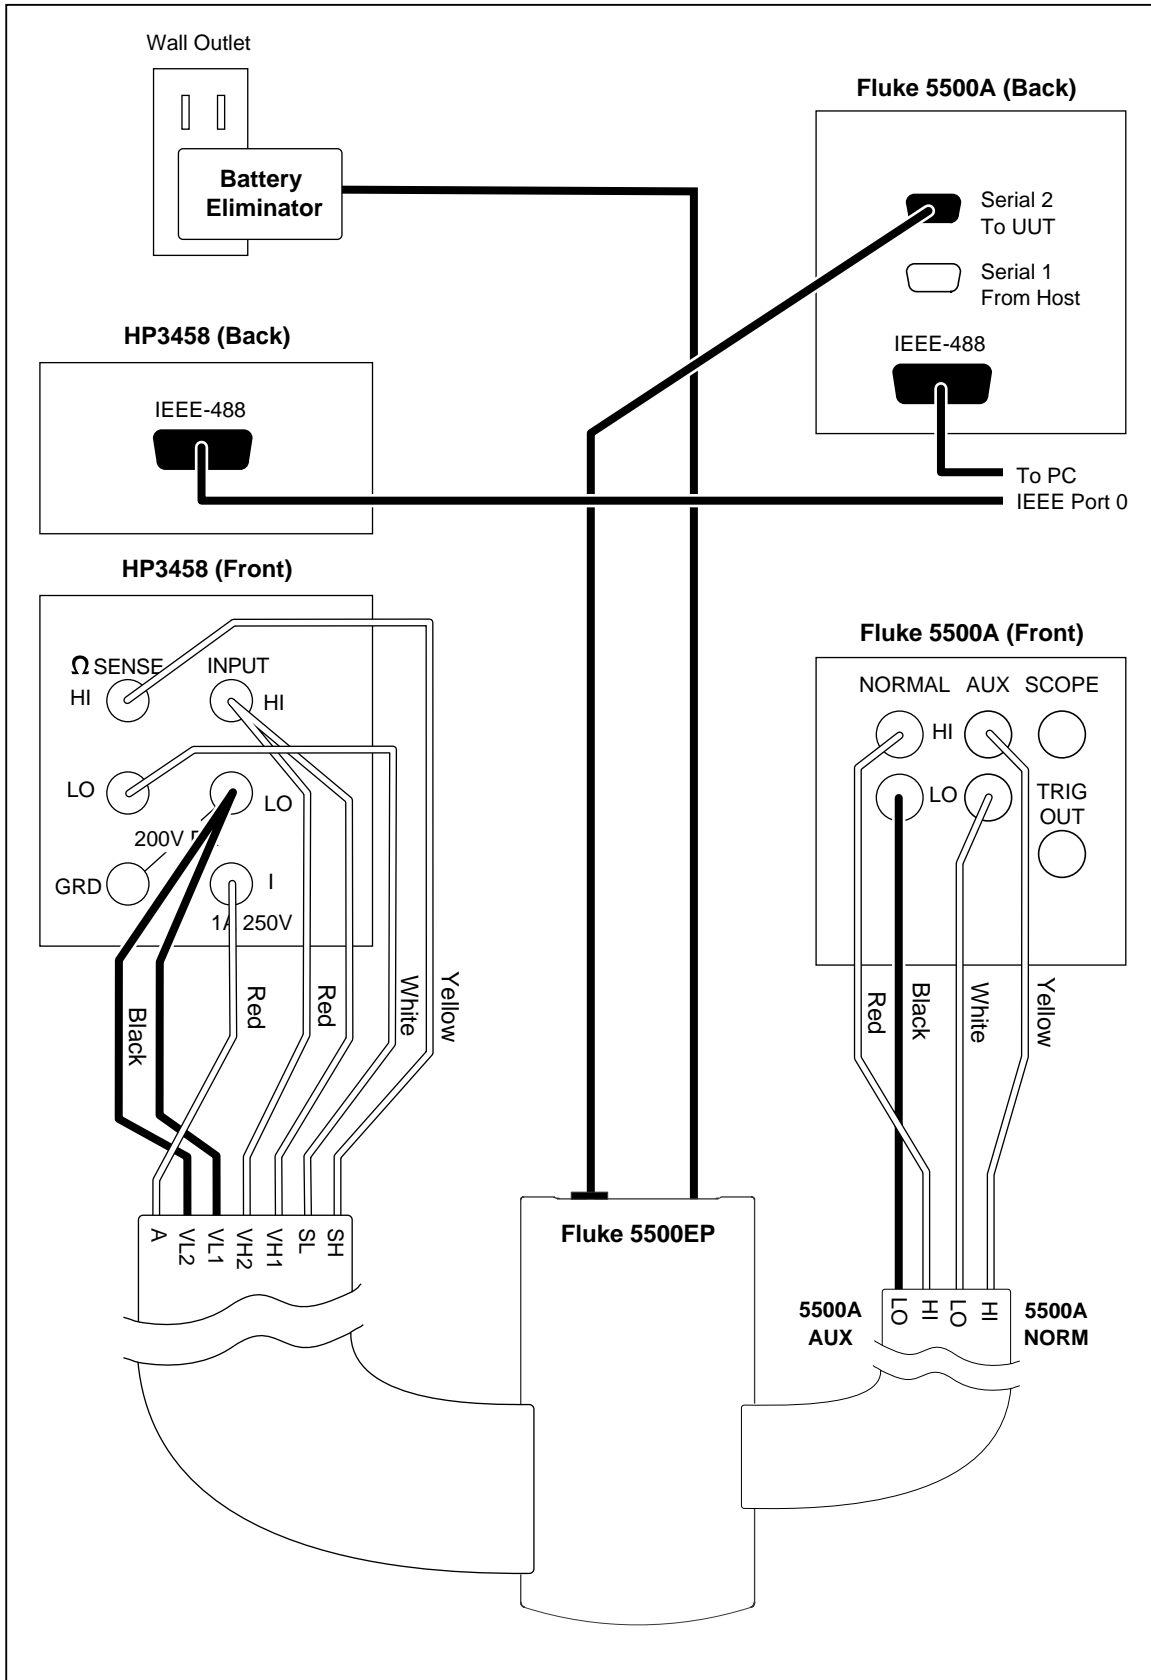

Figure 4. Connections for 5500A Characterization
This procedure sets up the instruments in their permanent configuration for both the characterization of the 5500A, and adjustment and verification of the DMM. Refer to Figures 4 and 5 during setup.
6. The switch accessory's input leads are the shorter ones that are designed to reach the 5500A when the switch accessory is placed directly in front of it. The output leads connect to the Hewlett Packard 3458A or DMM. Connect all leads according to Table 1 under "The Switch Accessory." Refer to Figures 4 and 5.
You need to characterize the 5500A every 24 hours to prepare it for calibration during the remainder of that day. Before you run the characterization software, follow the instructions for connecting the hardware, referring to Figure 4.